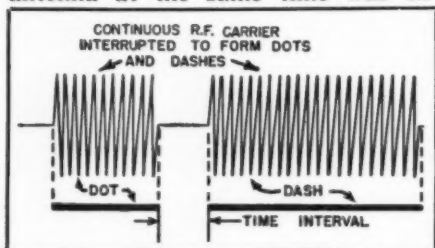
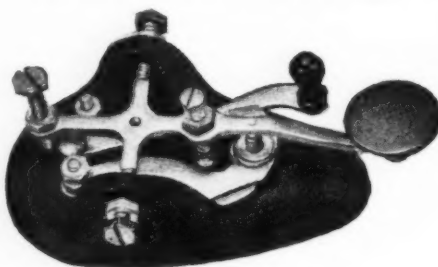

Fig. 1. Typical wave-form of dot-dash.
Fig. 3. Conventional telegraph key.
In the amplitude modulation system of radio transmission there are two methods by which code messages may be transmitted. The high-frequency carrier wave (whose frequency is that assigned to the Transmitter) may simply be started and stopped by a transmitting key to form signals of short duration (*dots*) and of longer duration (*dashes*) in accordance with a pre-arranged code system of dots and dashes to form letters of the alphabet. Fig. 1 shows graphically what this "keying" does to the wave. The transmitting key is depressed for a fraction of a second for a "dot" signal, then left open for a fraction of a second and then depressed for a period about three times as long as the first for a "dash" signal.
lated continuous radio frequency carrier "keyed" to transmit a dot and a dash. Since the received signal is already modulated, the desired audio frequency to actuate the earphones or loudspeaker is produced in the receiver without need for the local oscillator that is necessary in the continuous wave (CW) system described previously. A commercial transmitting "key" for code transmission in the systems of Figs. 1 and 2 is illustrated in Fig. 3.